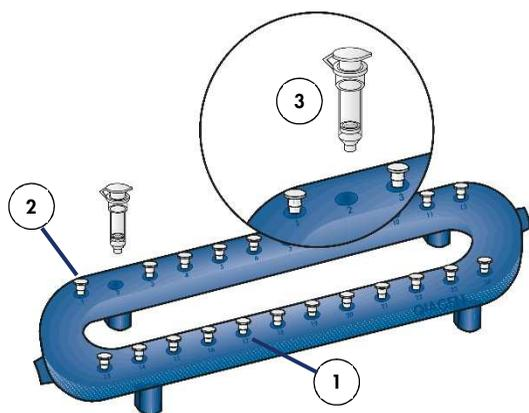

Figure 7. QIAvac 24 Plus. Setting up the QIAvac 24 Plus with QIAprep®, QIAquick, MinElute or RNeasy® Mini Spin Columns:
- 4a. QIAvac 24 Plus (see Figure 7, page 39):